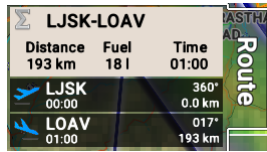

Figure 40: A list of waypoint after the departure and destination points were set.
- Move the map so that you can see the destination airfield LOAV. Again, start the long-touch on an empty area. Once the destination is on screen, touch the airfield and confirm the selection. This defines the destination. Figure 40 illustrates the waypoint list you should see on the screen.